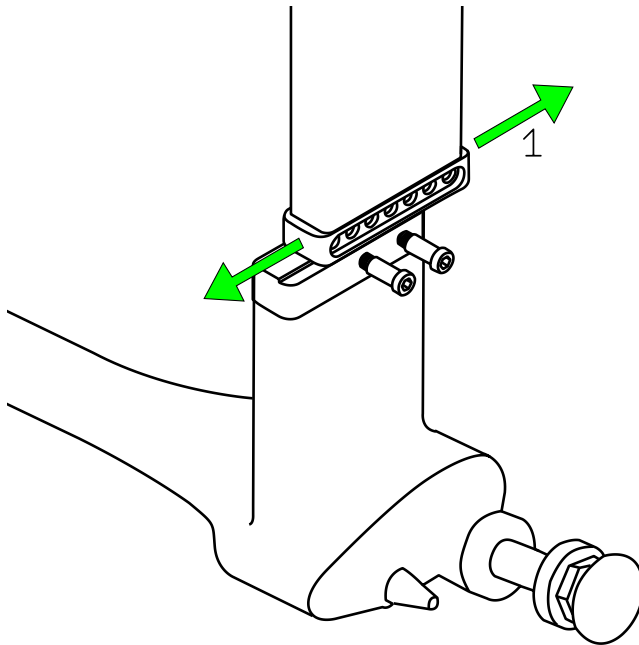

Figure 2.1
- Slide the lower/upper section back or forward on its track (Fig 2.1, 1)